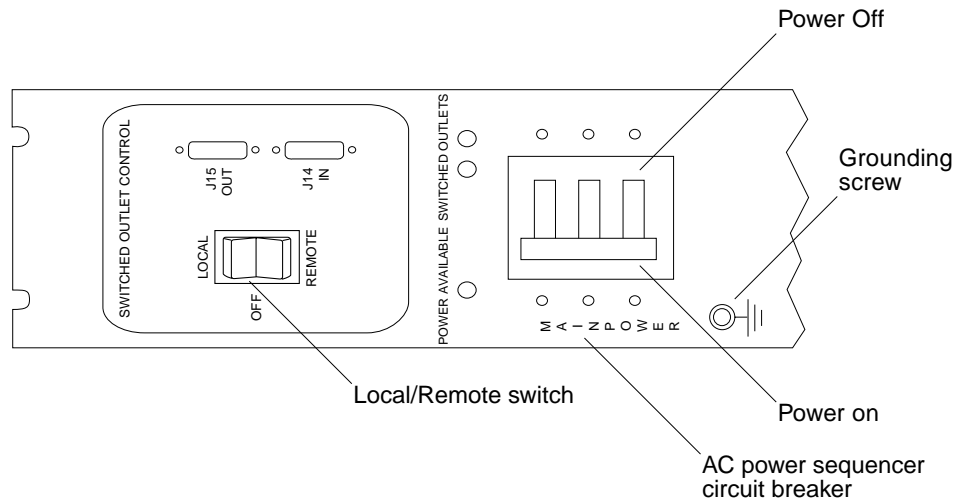

FIGURE 4-2 AC Power Sequencer Control Panel
- 2. Push the AC power sequencer circuit breakers at the bottom front and bottom back of the storage system to Off (FIGURE 4-2).**
4. Push the Local/Remote switch on the storage system to Local (FIGURE 4-2).
5. Press the AC power sequencer circuit breakers on the storage system to On (FIGURE 4-2).
3. At the bottom of the storage system(s), remove the trim panels and push the AC power sequencer circuit breakers to Off (FIGURE 4-2).